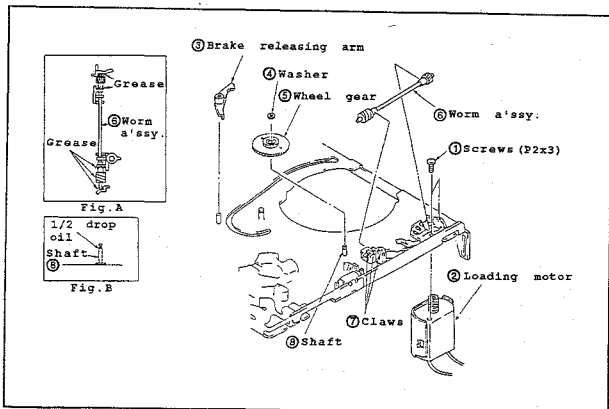

Fig.II-26
• Disassembling (Fig.II-26)
- (1) In the same procedures in "3-3" and "3-13", dismount the capstan motor and the switch lever.
- (2) In the same procedures in "3-14", detach the loading lever.
- (3) In the same procedures in "3-17" and "3-18", detach the drive gears (Right) and (Left).
- (4) To dismount the loading motor ②, remove the two screws ①.
- (5) Take off the brake releasing arm ③.
- (6) To take off the wheel gear ⑤, remove the washer ④.
- (7) Unhook the six claws ⑦ of worm a'ssy..
• Reassembling (Fig.II-26)
- (1) Install the worm a'ssy ⑥ while hooking the six claws ⑦.
- (2) Apply the grease to the five shadow areas of worm a'ssy indicated in the Fig.A.
- (3) Apply the 1/2 drop of oil to the shaft ⑧. (Fig.B)
- (4) Insert the wheel gear ⑤ into the shaft ⑧, and mesh it with the worm a'ssy's gear.
- (5) Assemble the brake releasing arm ③.
- (6) Apply the grease onto the entire surface of loading motor gear part.
- (7) Align the loading motor ② with the chassis. Then, secure them with the two screws ①.
- (8) In the same procedures in "3-18" and "3-17", install the drive gears (Left) and (Right).
- (9) In the same procedures in "3-14", install the loading lever.
- (10) In the same procedures in "3-13" and "3-3", install the switch lever and the capstan motor.